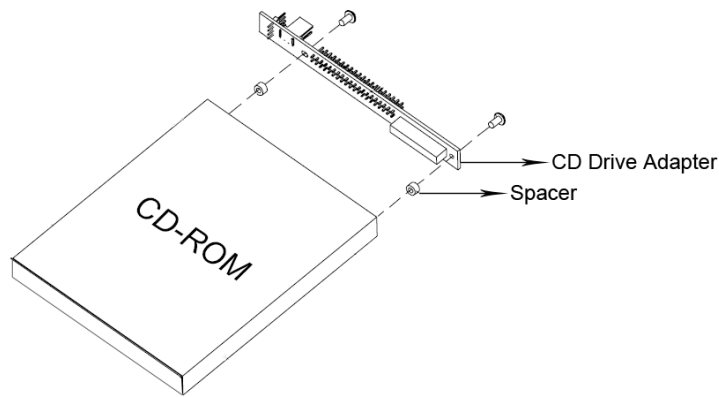

Figure 4-9: CD Drive Adapter Installation
Step 4: Insert two retention screws and secure the adapter to the CD drive (**Figure 4-9**).